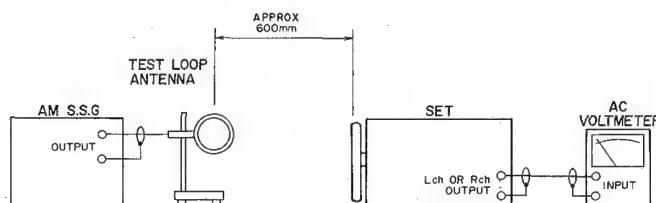

Fig. 7-1 Instrument Connections for AM (MW, LW) Section Adjustment
#### 7-4. AM (MW) ADJUSTMENT (Refer to Figs. 7-1 and 7-3)
### 7-5. LW ADJUSTMENT (AT-M11L ONLY) (Refer to Figs. 7-1 and 7-3)